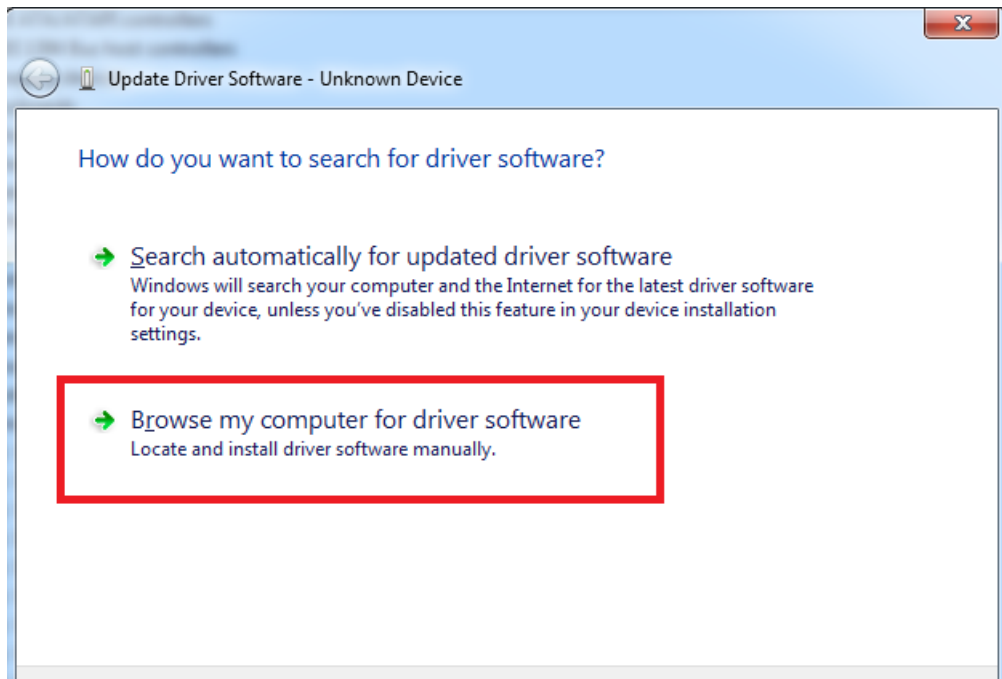

Fig. 6.2. Device driver software update message
- Press “Update driver software”; screen as in Fig. 6.2. should appear: